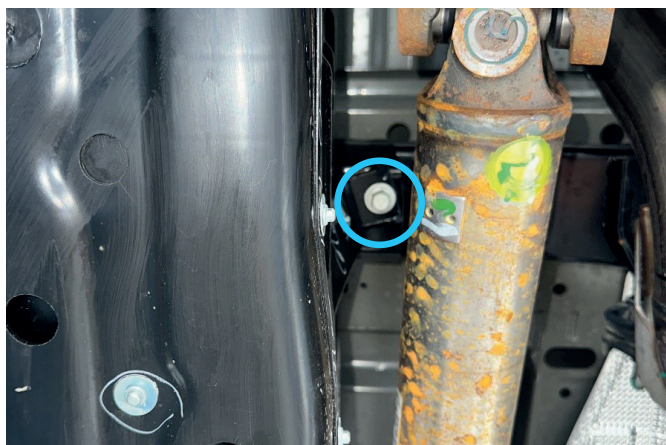

Fig. 5
5. Remove rear right factory bolt as shown in fig.5.